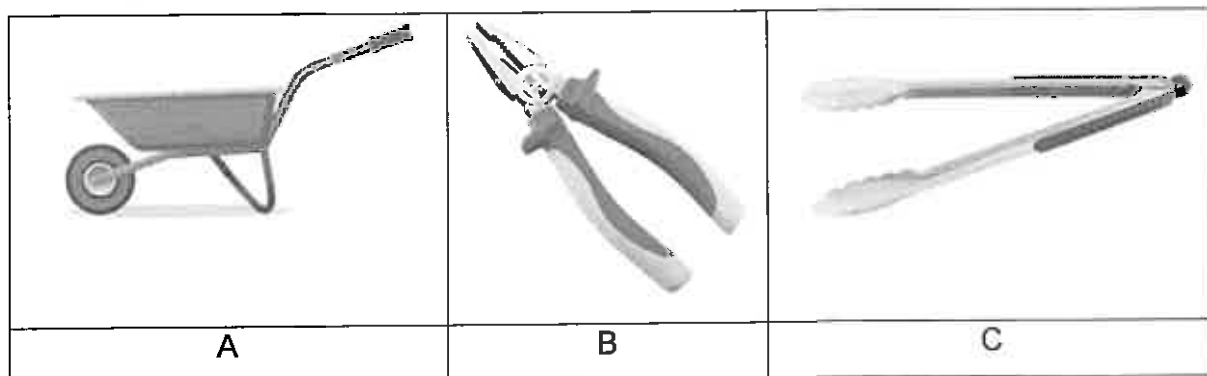

Figure 6
- 3.4 Figure 6 shows tools that represent levers.
- 3.4.1 Analyse Figure 6 and classify each tool as a class of lever. (3)